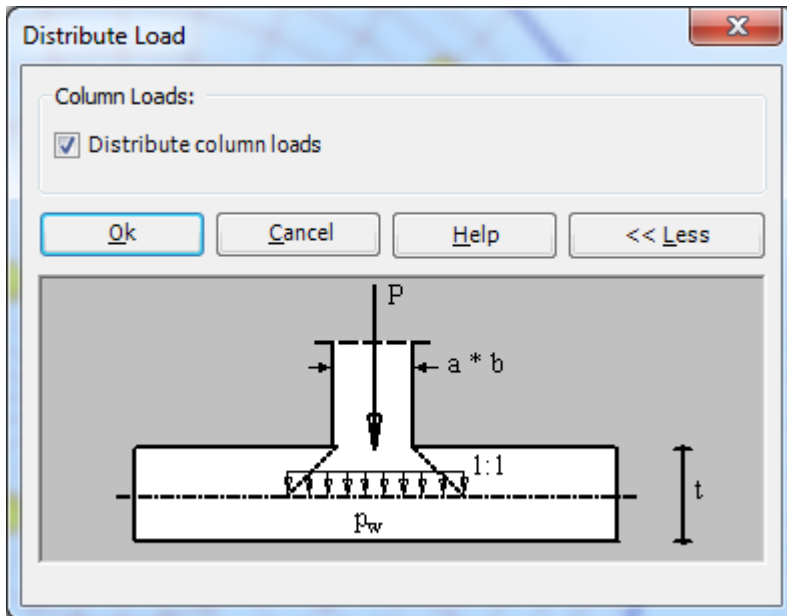

Figure 3.26 Distributing the point Load over an appropriate area
- Choose "Distribute load" command from "In Table" menu in the window of Figure 3.23. The following Dialog box in Figure 3.26 appears
- In the Dialog box of Figure 3.26, check the "Distribute column load" check box.